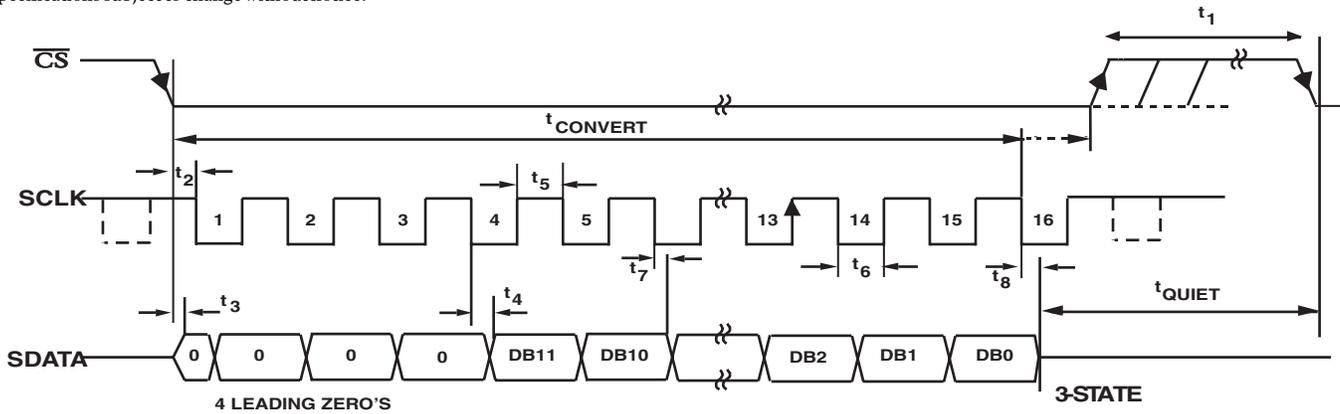
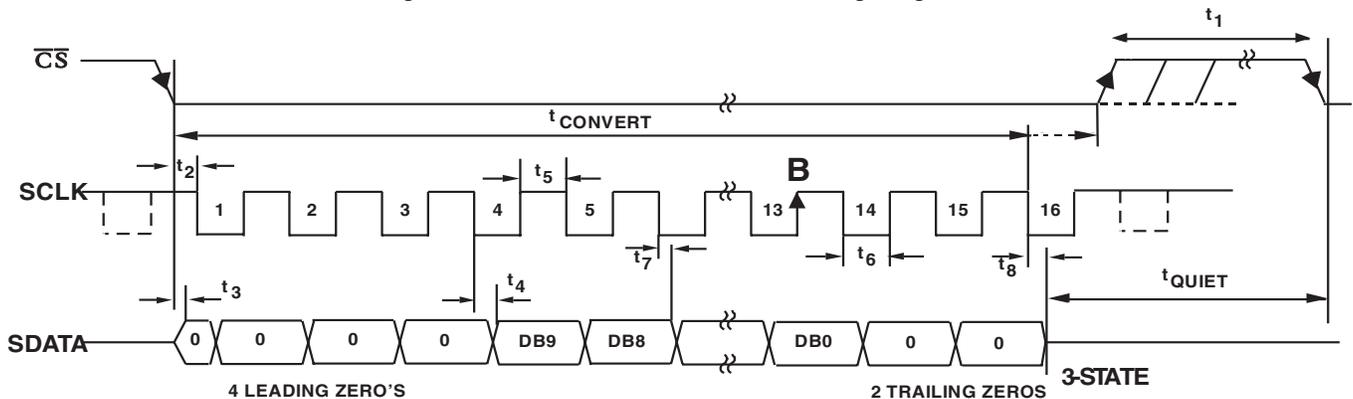

Figure 1. AD7450A Serial Interface Timing Diagram
Figure 2. AD7440 Serial Interface Timing Diagram
- ²See Figure 1, Figure 2 and the 'Serial Interface' section.